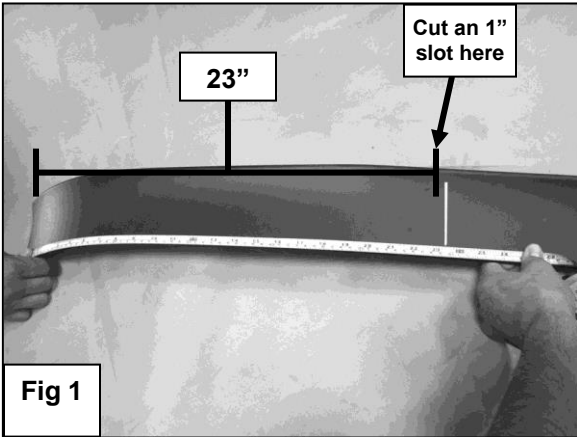

Fig 1
- Measure from the driver outer edge of the air dam 23" towards the inside of the car and mark the location. Use a hack saw to cut a 1" x 3 1/2" gap on the air dam (**Figure 1**). **NOTE:** Use the mark as center of the cutting location.